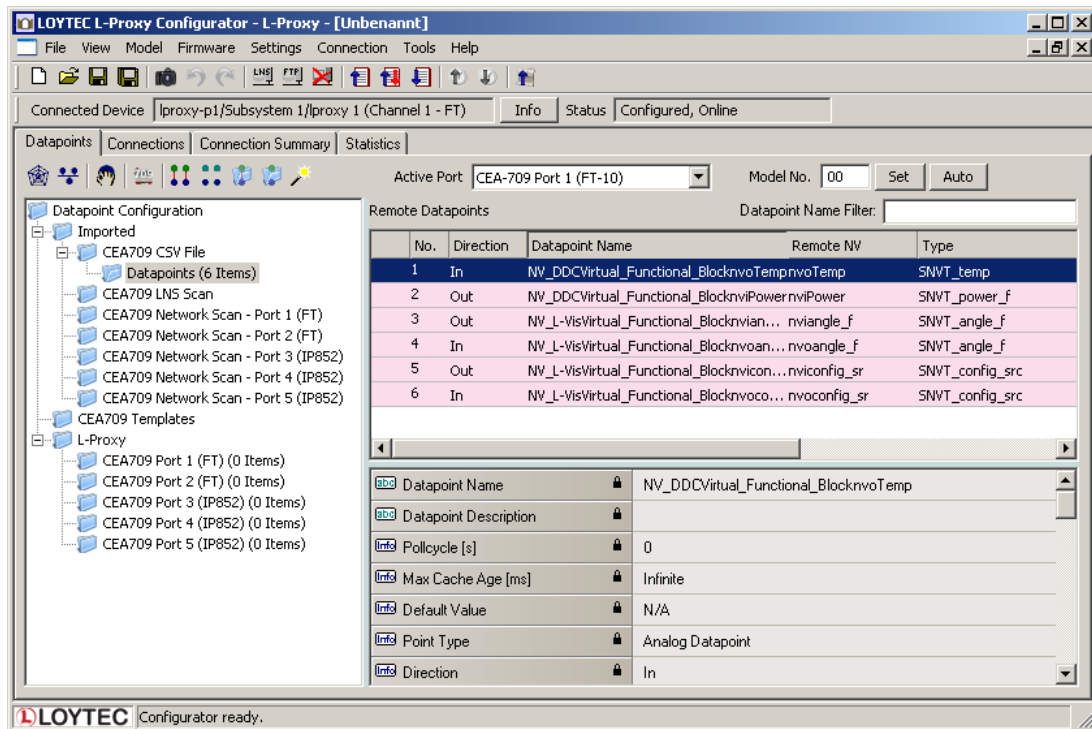

Figure 105: Imported NVs
- Now the CSV File folder is populated with the imported NVs as shown in Figure 105.